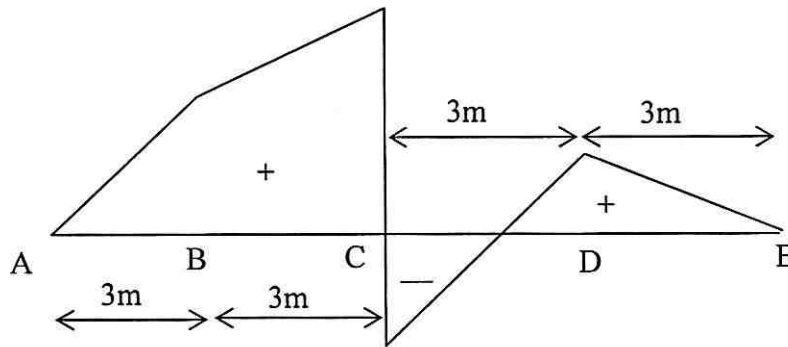

Fig. 4
- (b) The BMD of a beam of span 12 m is as shown in figure 4. Construct loading diagram from BMD. [7]